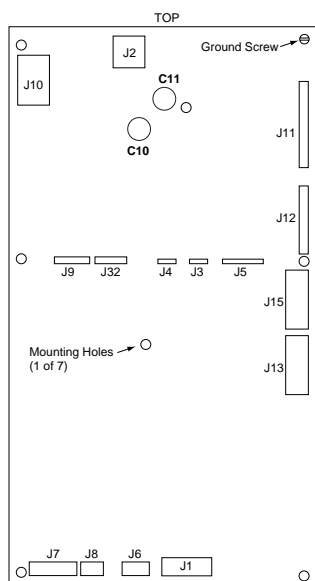

Figure 4.2.7: Power Board Connections
When the power board is damaged, voltage may remain on the C10 and C11 power board energy storage capacitors (see Figure 4.2.7 on page 4.2.13 for location of capacitors).
NOTE: When the clasp is in the release position, the cable will pull out freely. Refer to Figure 4.2.7 on page 4.2.13 for location of the jacks.
4. Remove the connections from the power board as follows (see Figure 4.2.7 for location of connections):
6. Using needle nose pliers, carefully unsnap the five plastic mounting pins (see Figure 4.2.7) and lift the power board out of the controller.
1. Place the board down into the controller and align the mounting holes with the five plastic mounting pins. See Figure 4.2.7 on page 4.2.13. Snap the board onto the mounting pins.
3. Install the power board connections as follows (see Figure 4.2.7 for location of connections):